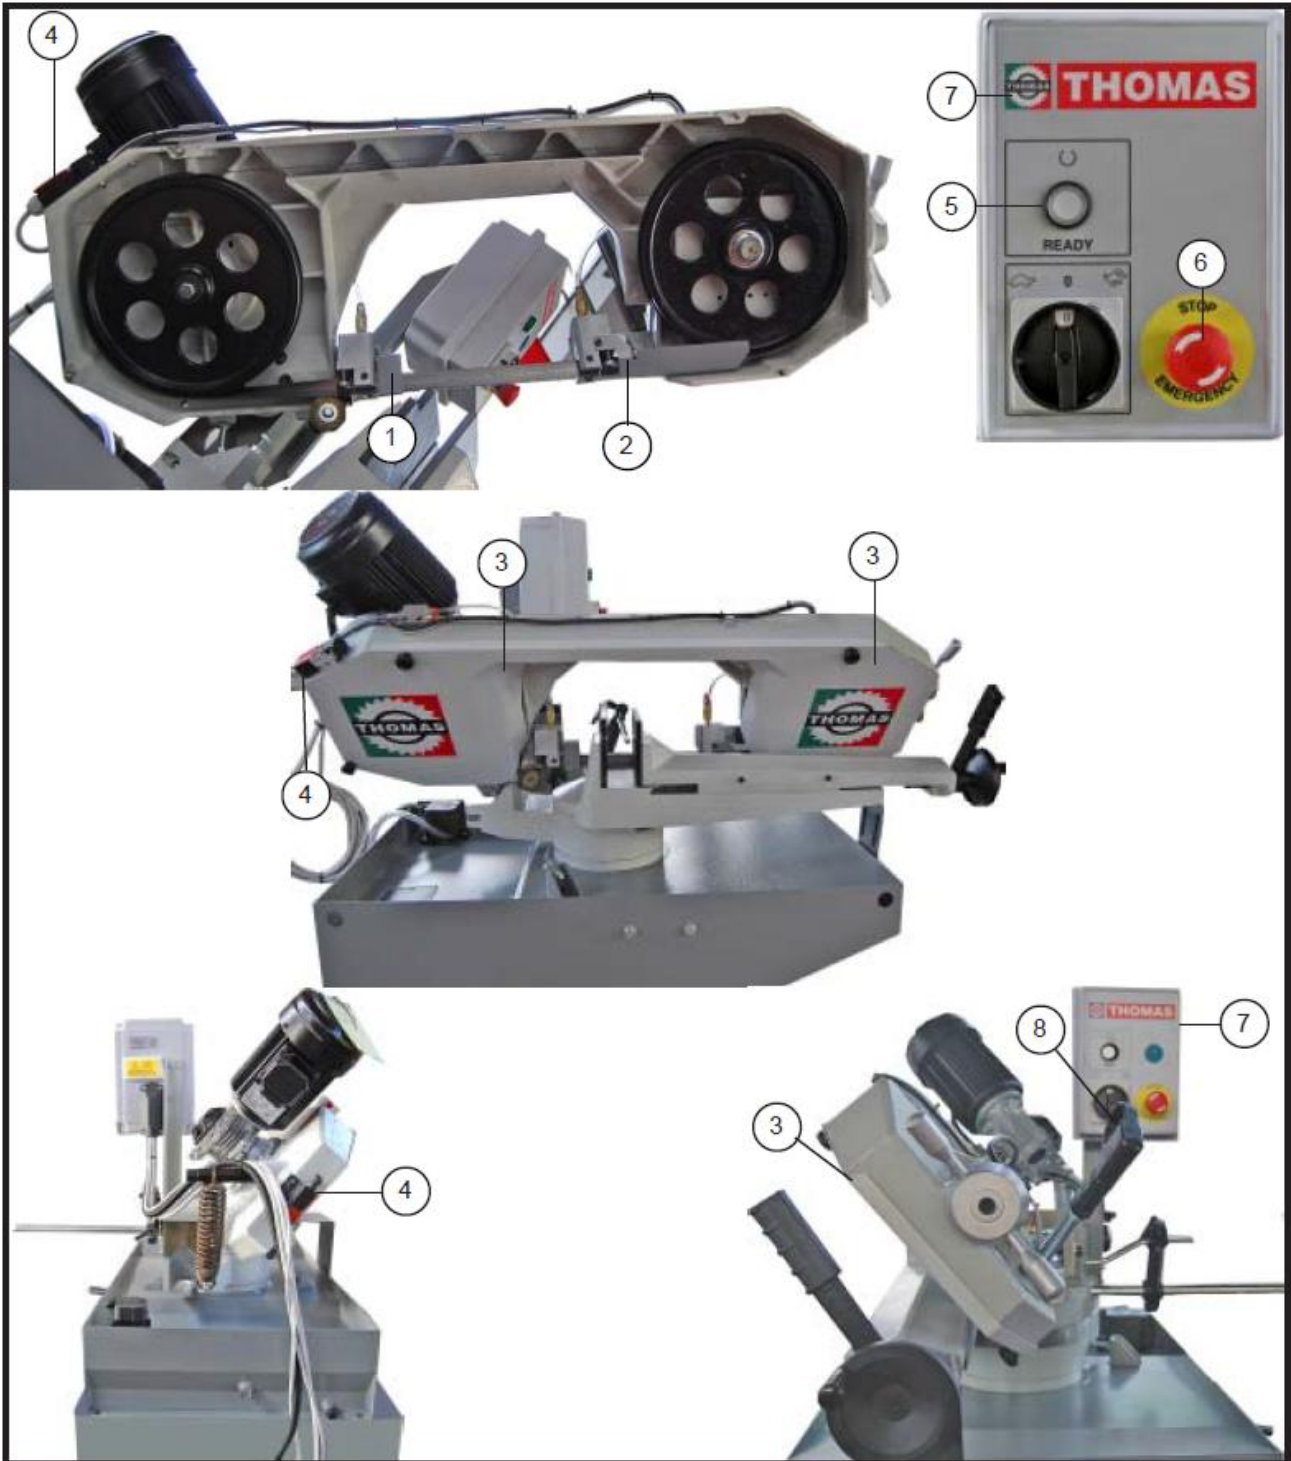

Fig. 1-7
- a) N. 1 Stationary Guard (1 fig. 1-7) on the fixed blade-guide block. The guard avoids the contact with the blade as it enters the blade-guide; also, it prevents access to the area in which the brush is located. The guard is made of steel plate press-bended and welded and it is mounted with screws to the blade-guide block. The resistance of the guard is suitable to the vibrations generated the normal use of the machine and maintenance works.
- c) N. 1 Interlocked Mobile Guard (3 fig. 1-7) sawframe cover. The guard prevents the access to the blade and both flywheels. The Cover is electrically connected to a interlock switch (4 fig. 1-7), which stops the machine if the cover is open. The closure of the cover does not start the machine automatically, but it is necessary to press the button <READY> (5 fig. 1-7) on the control panel. The cover is made of steel plate which is assembled to the sawframe by means of two hinges; the closure is provided by screw plastic knobs.
- d) N. 1 Emergency Push-Button in red on yellow label <EMERGENCY> (6 fig. 1-7), located on the control panel. When pressed, the button stops the machine instantaneously as it cuts off the electric supply to all motors. To start again, you need to release the push-button <EMERGENCY> and press the button <READY> (5 fig. 1-7).
- f) The Electric Box (7 fig. 1-7) of the machine is IP 54 protected and contains all the power electric components having dangerous voltage. The cover is closed by screws.
- i) In case of chute of electric supply, you need to press the button <READY> (5 fig. 1-7) to get the voltage to the machine when the electric supply is available.